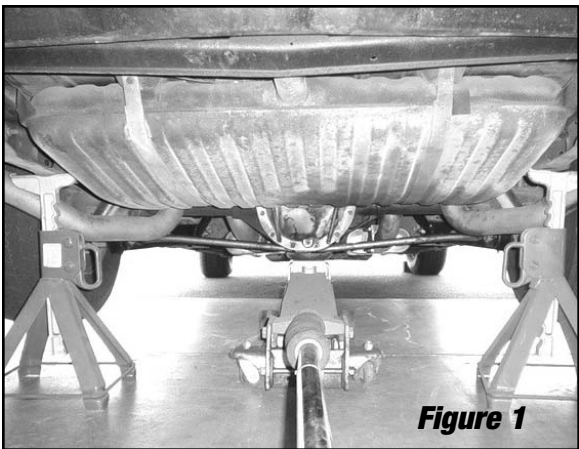

Figure 1
2. Support rear of the vehicle on jackstands and remove the rear wheels. Use proper rate jackstands on hard level surface *(see Figure 1)*.
3. Place a floorjack under the differential and lift up slightly to remove tension from the trailing arms bolts. Make sure not to lift the vehicle off the jackstands *(see Figure 1)*.